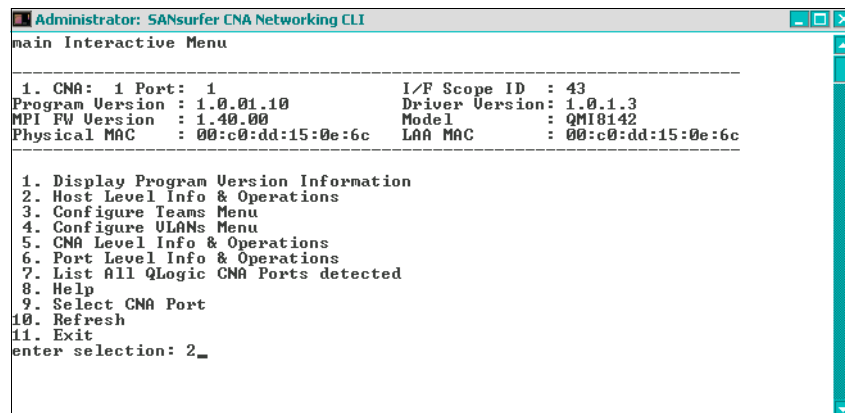

Figure 7-79 Choosing the Host Level Info & Operations menu
2. From the Main Interactive Menu (Figure 7-79), type option 2.